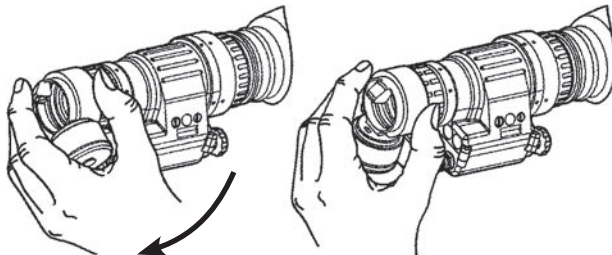

Figure 3-17. Compass Installation
(4) Press the compass onto the objective lens at an angle using your left hand. Slowly turn the compass counterclockwise until it is in the vertical position, with the compass illumination button pointing down (see Figure 3-17).
(5) Ensure that the compass fits tightly to the objective lens.
(6) Refer to paragraph 3.4.6 for compass operation.